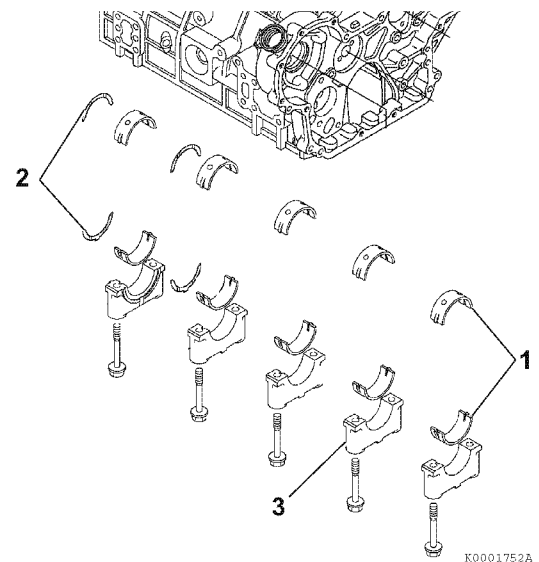

Figure 6-88
2. Reinstall new bearing inserts (1, **Figure 6-88**) and thrust bearing (2, **Figure 6-88**) in the cylinder block and main bearing caps. Apply a liberal coat of clean engine oil to the bearings and crankshaft journals.
4. Reinstall the main bearing caps (3, **Figure 6-88**).